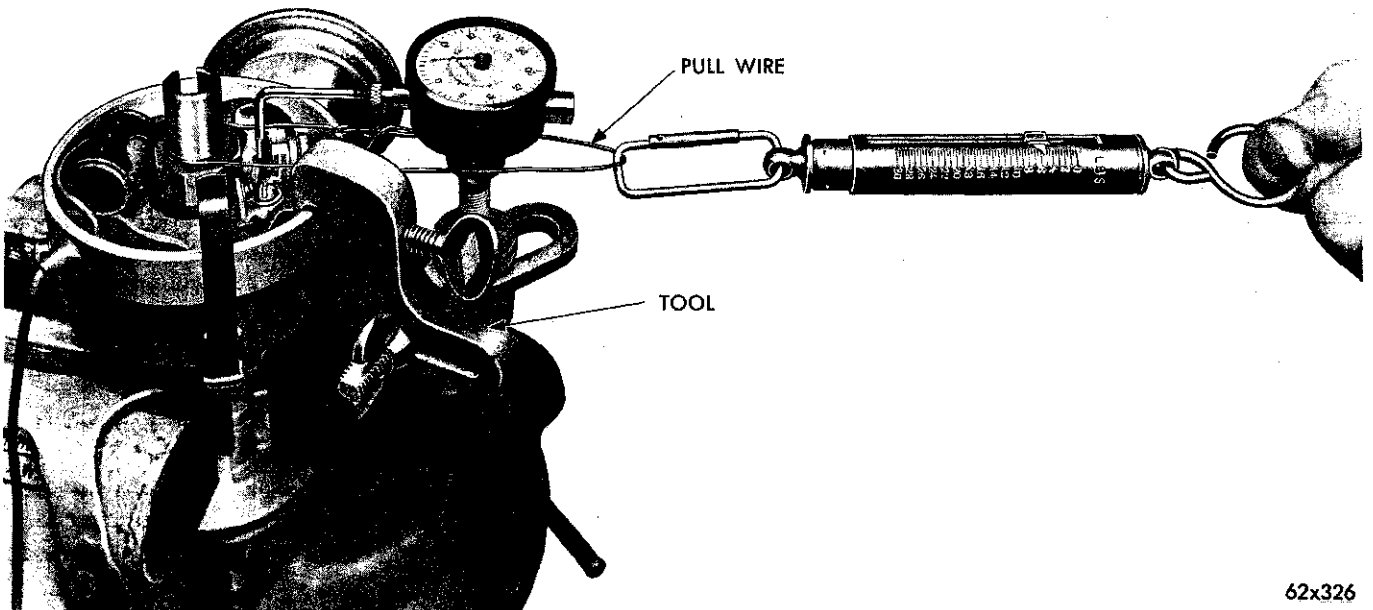

Fig. 1—Shaft and Bushing Wear Test
(1) Remove the distributor rotor.
(2) Clamp the ribbed section of the distributor housing lightly in a vise equipped with soft jaws and attach the dial indicator to the body of the distributor with the indicator plunger arm resting against the moveable breaker arm with the rubbing block of the breaker arm on the highest point of the cam lobe (Fig. 1).
(3) Place one end of a wire loop around the top of the distributor shaft. Hook a spring scale in the other end of the wire loop and pull on a line with the plunger of the indicator gauge. Be sure the wire loop on the shaft end is down on the shaft to insure a straight pull and also that the wire loop does not interfere with the indicator or holding bracket. Apply a five pound pull and read the movement of the plunger on the indicator dial. (Be sure the rubbing block of breaker arm is on the highest point of the cam lobe during this test.) If the plunger movement exceeds .006 inch, replace the bushings and/or distributor shaft, see "Distributor Disassembly".